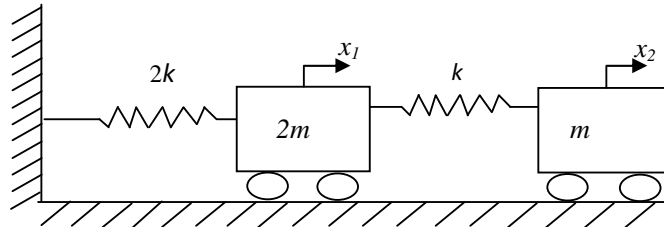

Fig. 1
7. Use modal analysis to determine the steady state response of the system shown in Fig. 1 when the mass  $m$  is subjected to a force of  $100 \sin 2t$ . [16]